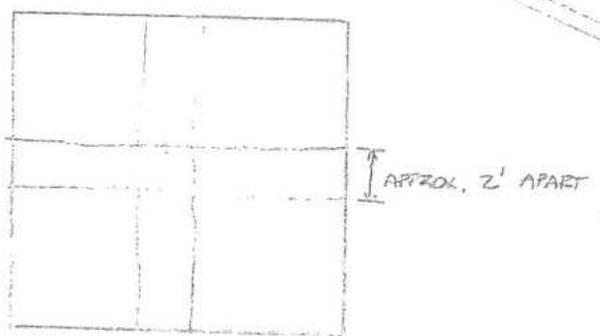

FIG. 2
3. When you come to a corner, wrap the rope around the corner upright one revolution then continue to the next grommet. If you were lacing from inside to outside then go outside to inside after the corner. There is no right or wrong direction to start but when you come to a corner you will switch directions. See figure 2